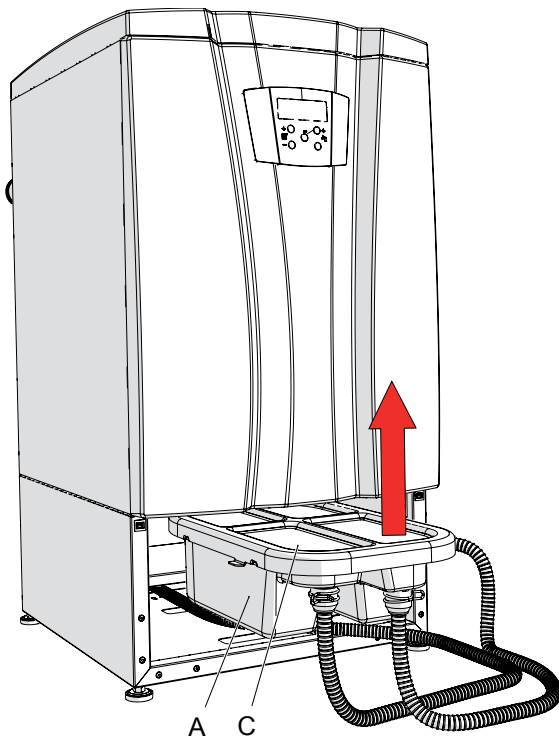

Figure 17-11 Condensate trap and neutralizing box removing
3. open cover "C" (Figure 17-11) in the upper direction;